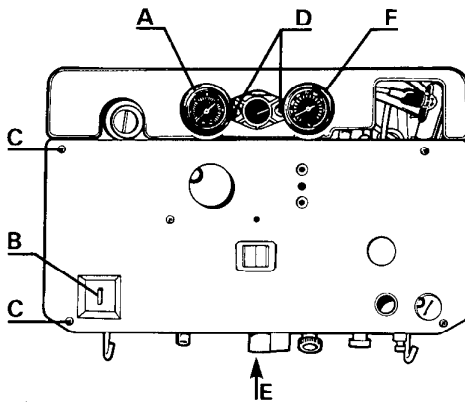

Fig. 56
- l) Remove one screw (D) and two screws (E). (Electrical box support bracket to lower chassis).
- q) Continue moving electrical box until bottom support bracket can be positioned on hook at bottom of appliance, see fig. 56 B.
- d) Drain boiler down through safety valve (F), see section 8.11 (fig. 56).
- e) Disconnect bleed pipe union from pump volute (E).
- f) Pull off plastic drain tube (B).
- g) Pull out spring clip (A) with pliers.
- h) Disconnect flexible pipe union (D) at pump outlet.
- n) Remove four screws (C) retaining cap.